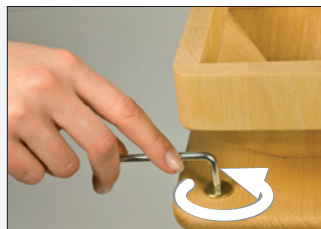
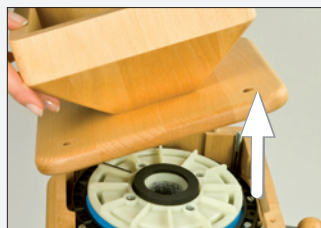

Figure 2
Figure 3
You can remove the transport guard by removing the four brass screws (figure 1) on the funnel plate and lifting up the funnel (figure 2). Completely remove the three red screws with a cross-slotted screw driver (figure 3).
- Lift off the funnel (page 4, figure 2)